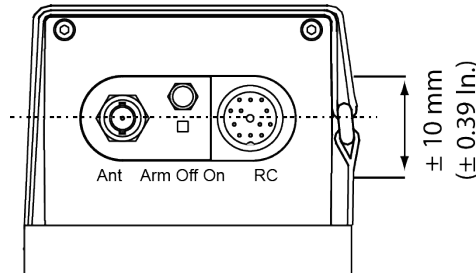

Figure 4: Buckle position
5. Ensure the buckle is correctly positioned (indifferently on right or left side of ELT) regarding the horizontal center line of ELT and firmly adjust and tighten the retaining strap – refer to Figure 4: Buckle position.